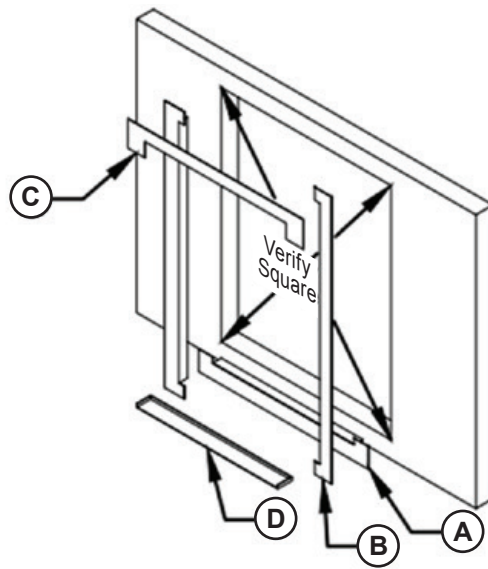

FIGURE 1
10. Make sure that each corner joint of the frame has sufficient sealant. Apply additional sealant to the corner joints as necessary to ensure a watertight seal as shown in Figure 1.